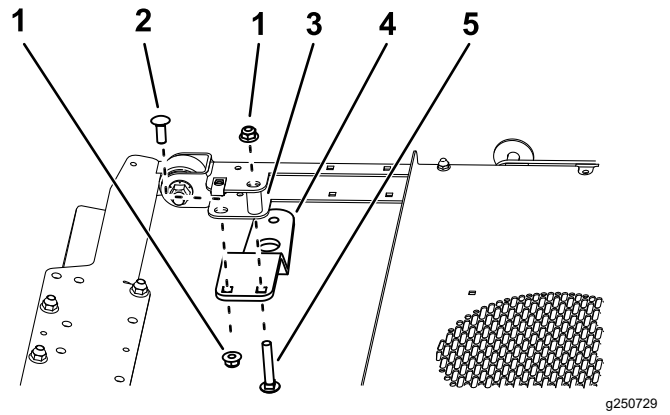
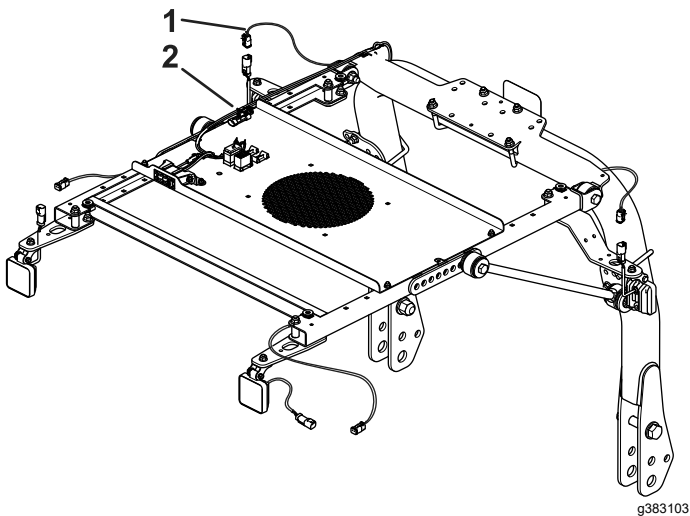

Figure 3
**Figure 5**
- Secure each bracket to the sunshade frame with a long carriage bolt, a short carriage bolt, a spacer, and 2 flange nuts (Figure 3 and Figure 5).
- Install a light to each bracket with a carriage bolt and a nut (Figure 5).